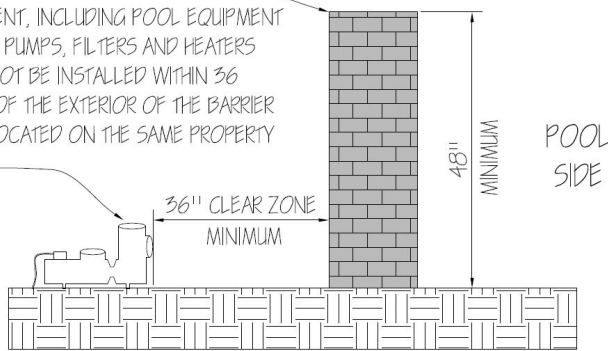

Figure 1
3. Solid barriers which do not have openings, such as a masonry or stone wall, shall not contain indentations or protrusions except for normal construction tolerances and tooled masonry joints. **See Figure 1**.
1. **EQUIPMENT CLEAR ZONE.** Equipment, including pool equipment such as pumps, filters and heaters shall not be installed within 36" of the exterior of the barrier when located on the same property. **SEE FIGURE 1**